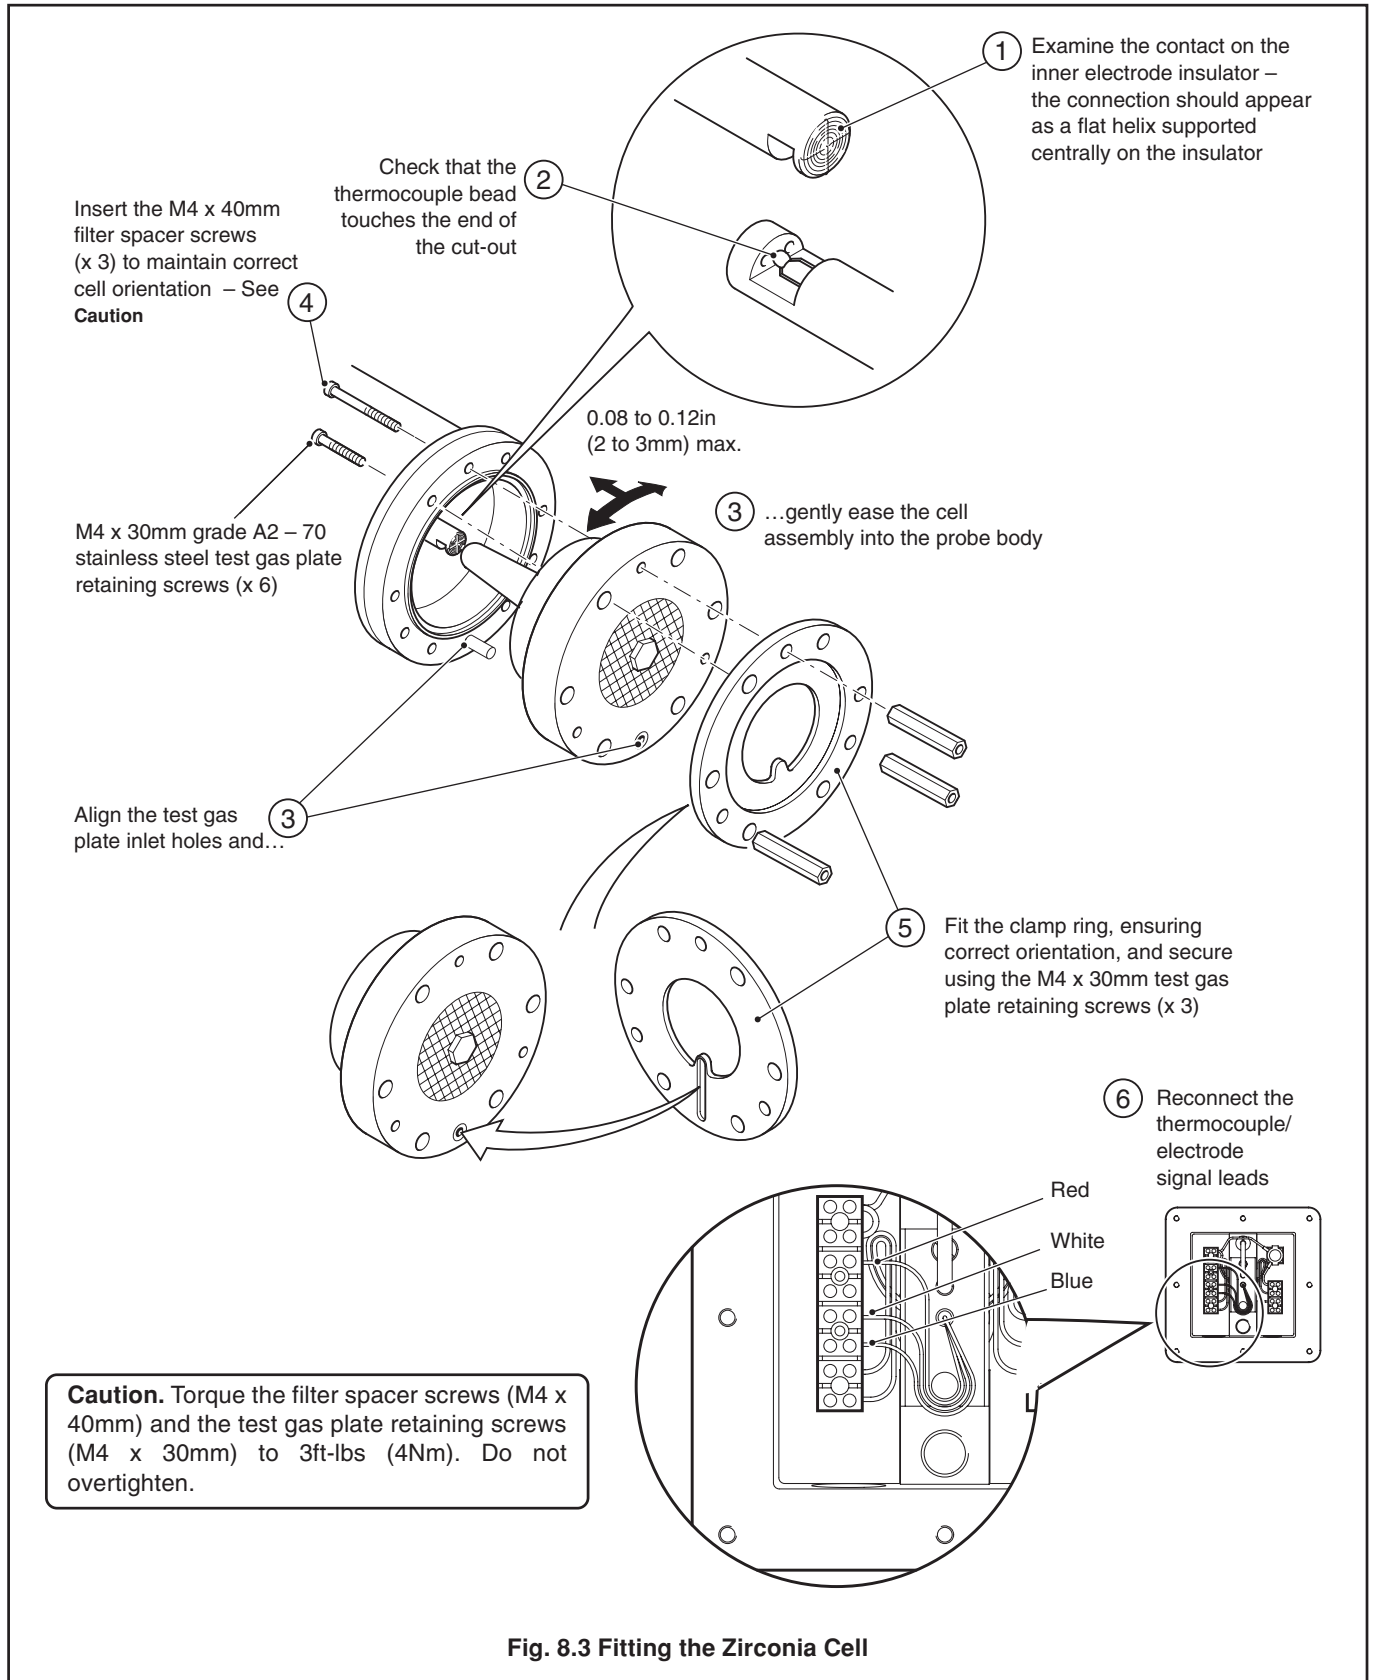

Fig. 8.3 Fitting the Zirconia Cell
8.2.2 Fitting the Zirconia Cell – Fig. 8.3
a) Carry out the procedures described in Fig. 8.3.